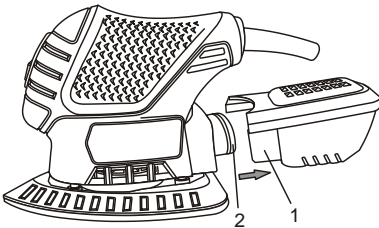

Fig. 2
1. Grasp the sides of the dust box (1) and pull it away from the rear of the dust chute (2) (Fig. 2).